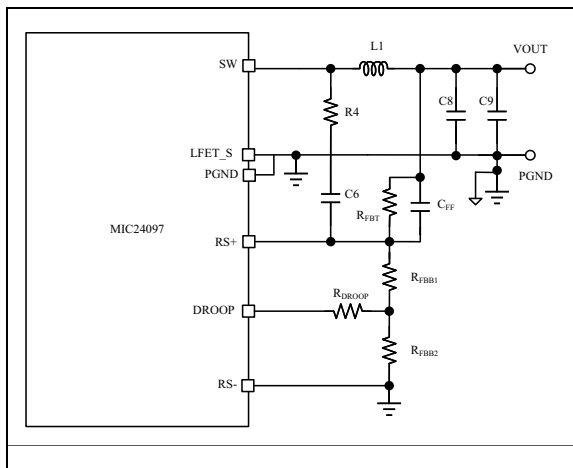

FIGURE 4-21: AVP Implementation for the DROOP Pin.
The schematic showing how to implement the AVP output is found in Figure 4-21.
Step 3: The R_{FBB1} is slightly adjusted to get $V_{OUT} \times (1+\varepsilon)$ for $I_{OUT} = 0A$. The result is shown in Figure 4-21.